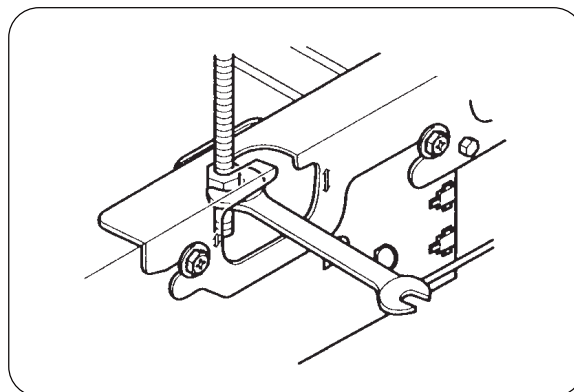

Fig.8
3) Insert the spanner from the hanger bracket opening. (Refer to Fig.8)